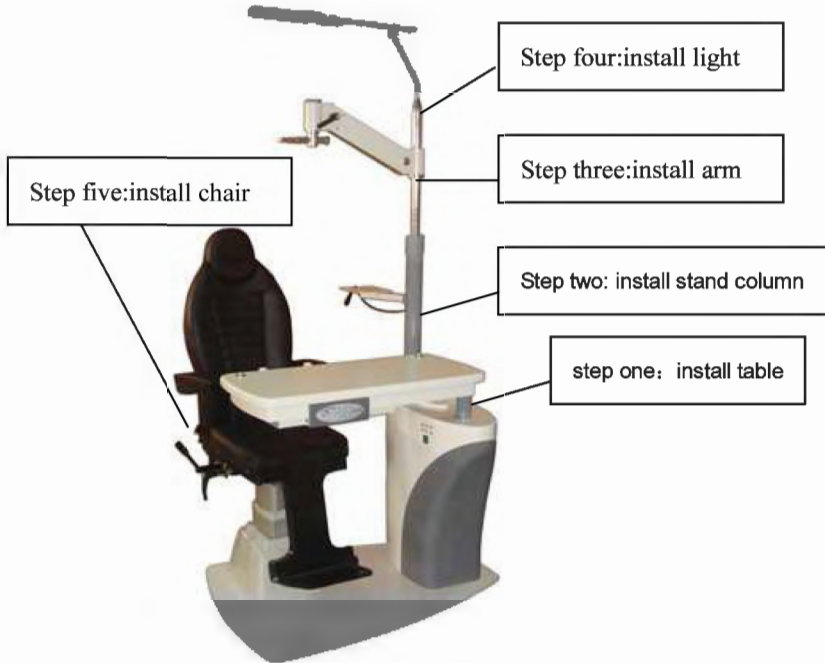

Figure.3
- 6) Installation of arm support: first assemble the panel of chart projector on the arm support, connect the connectors under the arm support(arrange the wires orderly), install the arm support on hole of the main unit, open the side panels and fix the arm support tightly with screws, at last cover the side panels.(See figure.3)